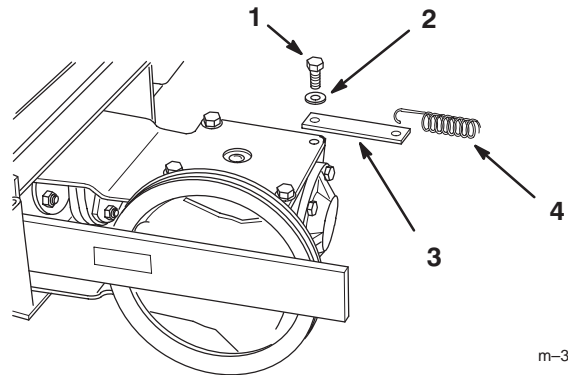

Figure 6
1. Remove bolt and washer from gearbox right rear hole (Fig. 6).
2. Install spring strap to gearbox and secure with previously removed bolt and washer (Fig. 6).
4. Hook spring into end of spring strap (Fig. 6).